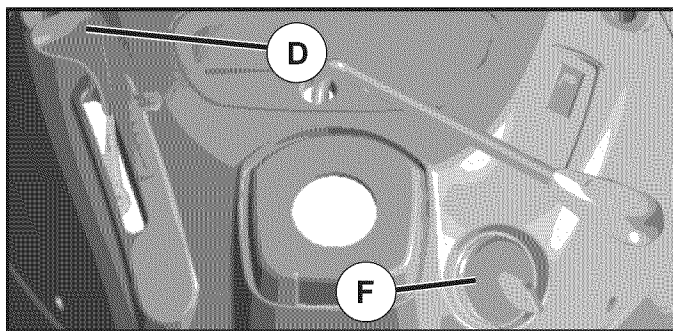

Fig. 9
TO USE THROTTLE CONTROL (D) (See Fig. 9)